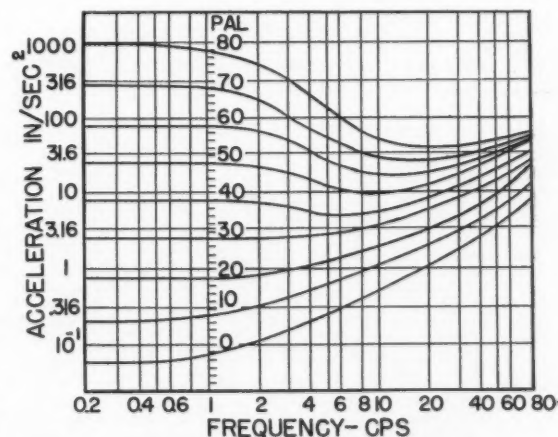

Fig. 1 Curves of equal intensity of sensations of vibrations in relation to frequency and acceleration—Zeller (7 and 8)
One of the recent papers presented in Germany by Zeller (7) needs to be mentioned. His summaries, which are based on tests conducted by Postlethwaite (9), Meister (2, 3), and Békésy (10, 11) are shown in Fig. 1. Zeller has originated a scale which relates the intensity of sensation of oscillation to both accelerations and frequencies, based on the experience of the above-mentioned investigators. With the aid of these investigations, Zeller establishes the following scale (in pal)† for the intensity of sensations of oscillation:
The statement made by Békésy, that vibrations below 1 cps do not cause noticeable deformation of the human body, agrees entirely with the graph made by Zeller (Fig. 1; note range from 0.2 to 1 cps).
Values of  $b$  can be taken from Fig. 1 for the chosen pal value of susceptibility according to frequency. According to Zeller, 55 pal has to be taken as the average value of heavy vehicle vibrations, which could be tolerated only momentarily by the human subject without injury, and 70 pal represents the heaviest vibrations, i.e., those causing physical injuries.